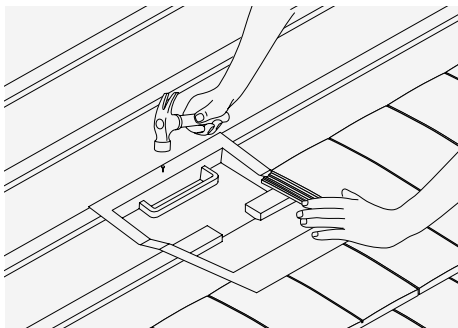

Fig. 6 - Nail catchment tray
- 5 Lay ventilation tile over catchment tray and clip or nail, if necessary (Fig. 6).